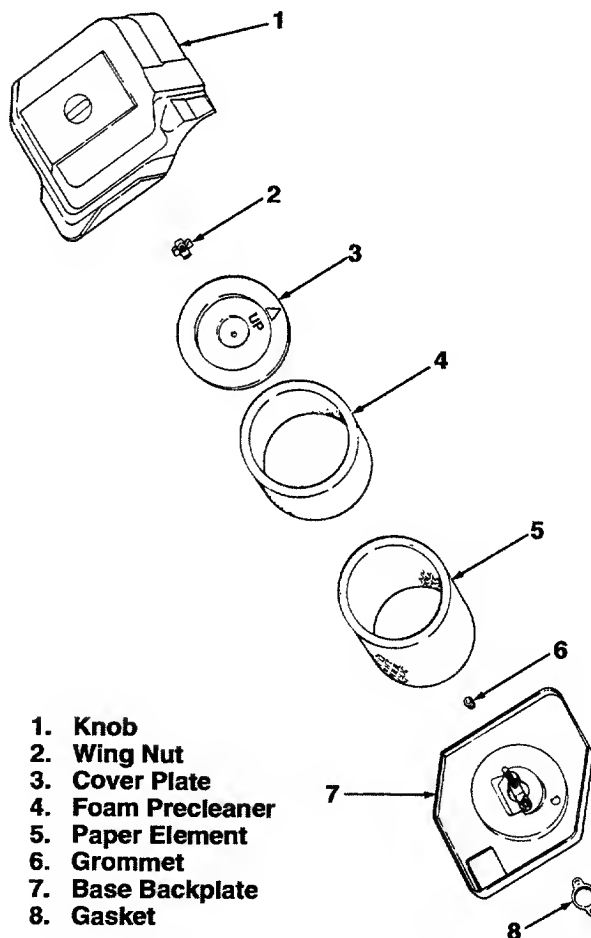

Figure 24. Air Cleaner Assembly.
1. Unfasten the air cleaner cover retaining knob and remove the air cleaner cover (See Figure 24).
2. Remove the foam pre-cleaner by sliding it up off the paper element (See Figure 24).
The air cleaner element cover plate (See Figure 24) must be correctly installed to properly seal against the paper element gasket. Note the position of the "UP" arrow on the cover plate before removing.
6. Inspect the rubber grommet (See Figure 24) for deterioration, cracks, and for a snug fit on the air cleaner stud. Replace if damaged or worn.
The air cleaner element cover plate (See Figure 24) must be correctly installed to properly seal against the gasket of the paper element. The flange on the underside of the cover plate should mate with the collector plate on the air cleaner base.